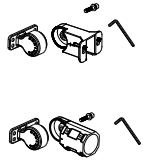

Figure 1
Step 1: Separate the bracket with tool. (Figure 1)